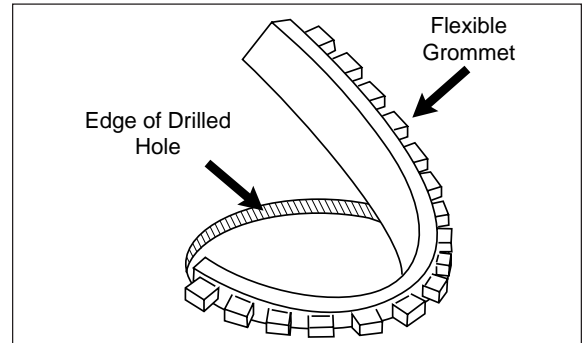

Figure 14
2. Insert the flexible grommet material (J) and “walk” the material around the inside edge of the hole (Figure 14).